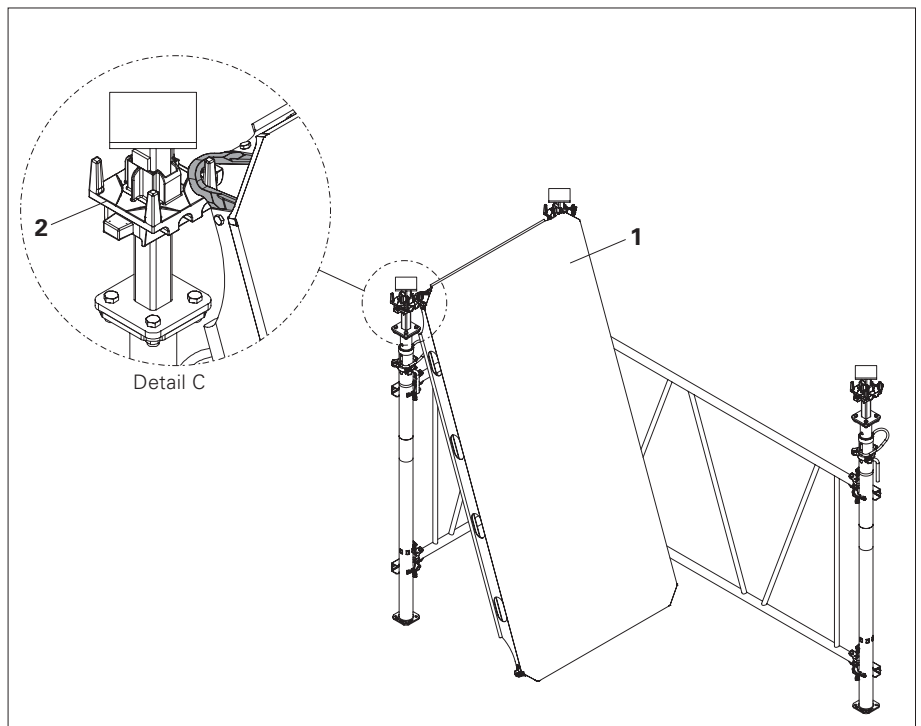

Fig. A5.02
5. Hang the panel ADP (1) into the two props. (Fig. A5.02)